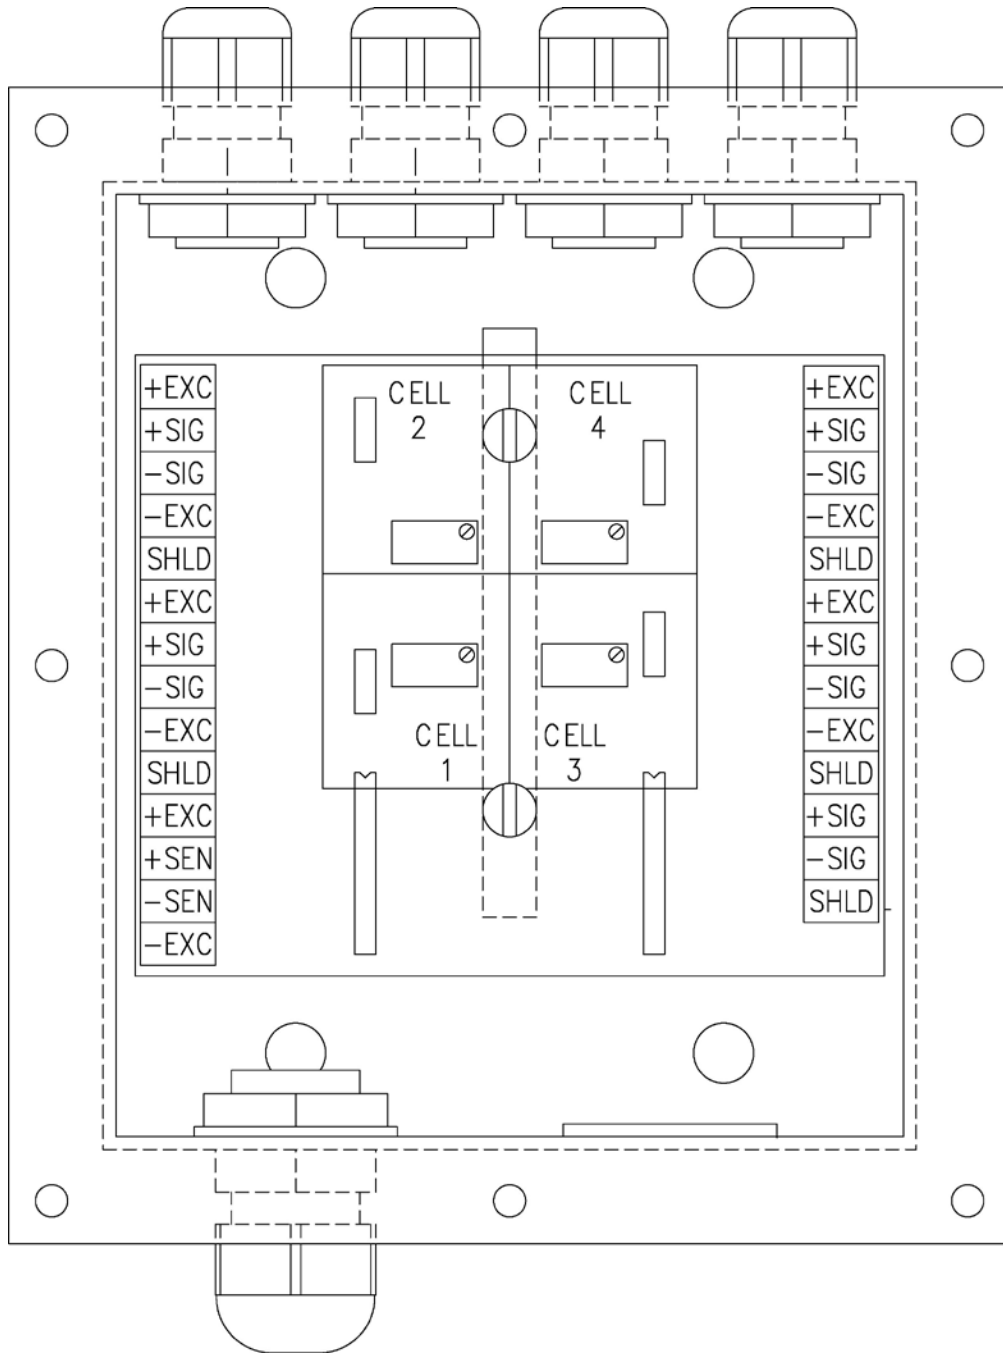

Figure No. 11 – J-Box Trim Assembly
18. Span the indicator and corner seal the scale using the trim pots in the summing box like any other floor scale. Refer to Figure No. 11.